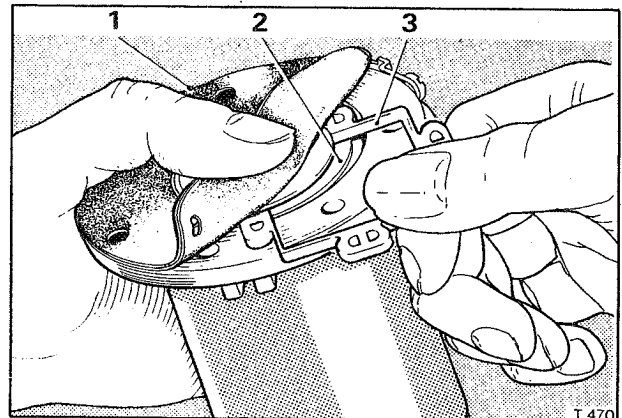

Fig. K22 Fitting the nylon armature guide plate
10. Turn back the edge of the diaphragm and insert one of the nylon armature guide plate end lobes into the recess beneath the diaphragm as shown in Figure K22. Ensure that the flat face of the guide plate is adjacent to the diaphragm.